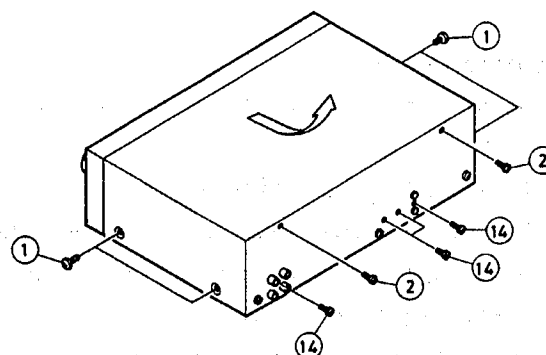

Fig 2 - 1
1. Remove four screws ① retaining the top cover from both side.
2. Remove two screws ② retaining the top cover from the back side.
3. To remove the top cover, slide in direction of arrow and lift away(refer to Fig 2 - 1)